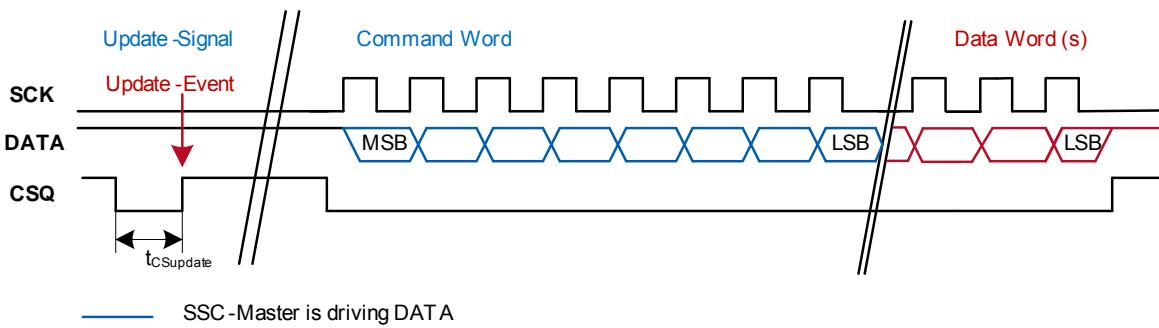

Figure 22 Update of update-registers
- At a rising edge of CSQ without data transfer before (no SCK-pulse), the update-registers are updated with according values (Figure 22).